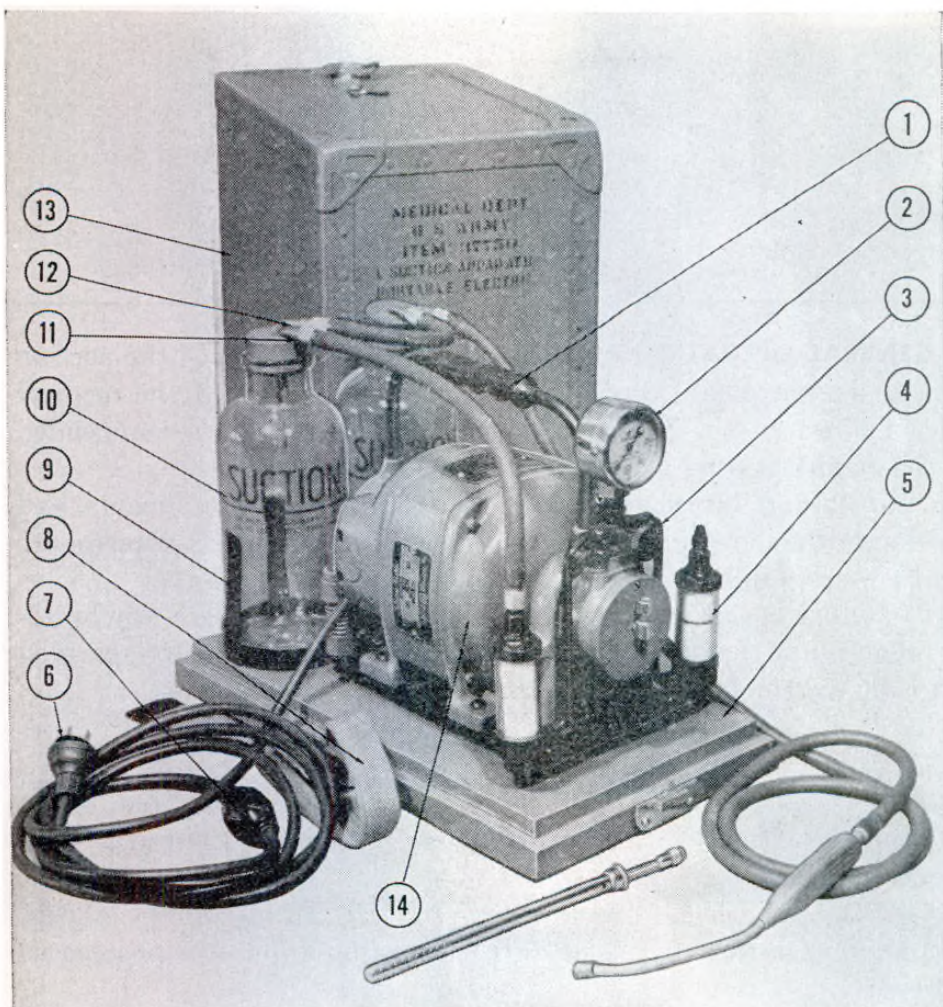

Figure 5. Suction Apparatus, Sklar, assembled with accessories, ready for use.
d. Sklar. Connect the rubber tubing to the short angle tube (fig. 5).